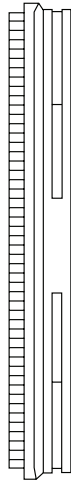

Fig. 25 Position Strip Tray with gear teeth to Left and tab pointed up.
- Position Carriage so that the gears are on the left, with the tab pointing straight up (Fig. 25).